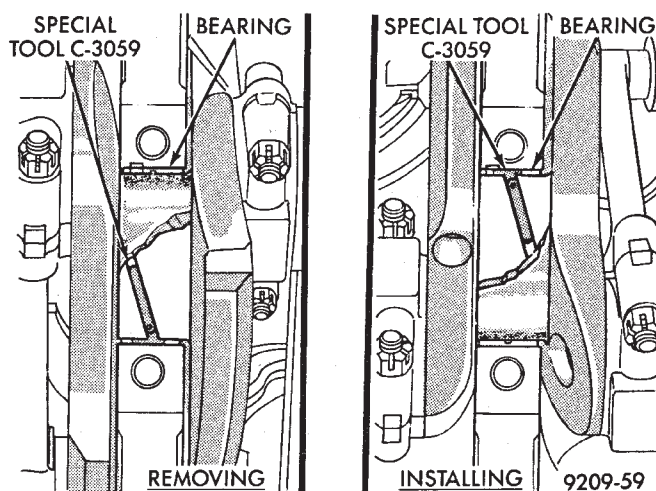

Fig. 3 Removing and Installing Upper Main Bearing With Special Tool C-3059
(1) Remove oil pan and windage tray. Refer to procedure outlined in this section. Identify bearing caps before removal.
(2) Remove bearing caps one at a time. Remove upper half of bearing by inserting Special Main Bearing Tool C-3059. (Fig. 3) into the oil hole of crankshaft.
(3) Slowly rotate crankshaft clockwise, forcing out upper half of bearing shell.
(1) Start bearing in place, and insert Main Bearing Tool C-3059 into oil hole of crankshaft (Fig. 3).